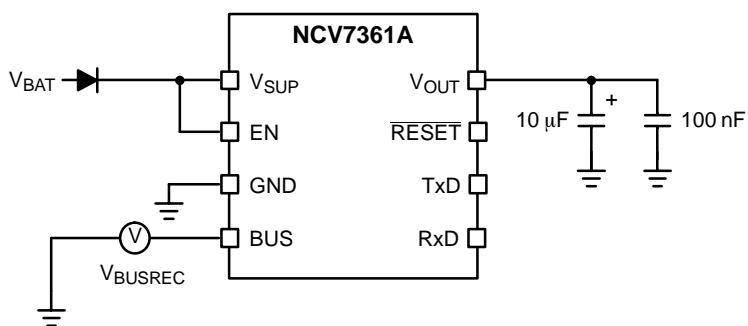

Figure 7. Test Circuit for Bus Voltage "Recessive" (V_{BUSREC})
7. See Figures 7, 8, and 9 for test setup.